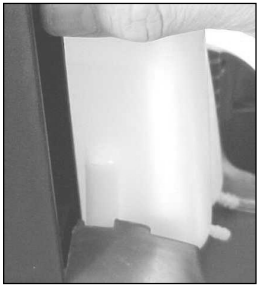

Figure 3
2. Slide detergent bottle "I" into left side of unit and detergent bottle "II" into right side of unit and attach detergent tube to hose barb on bottle as shown in Figures 3 and 4.